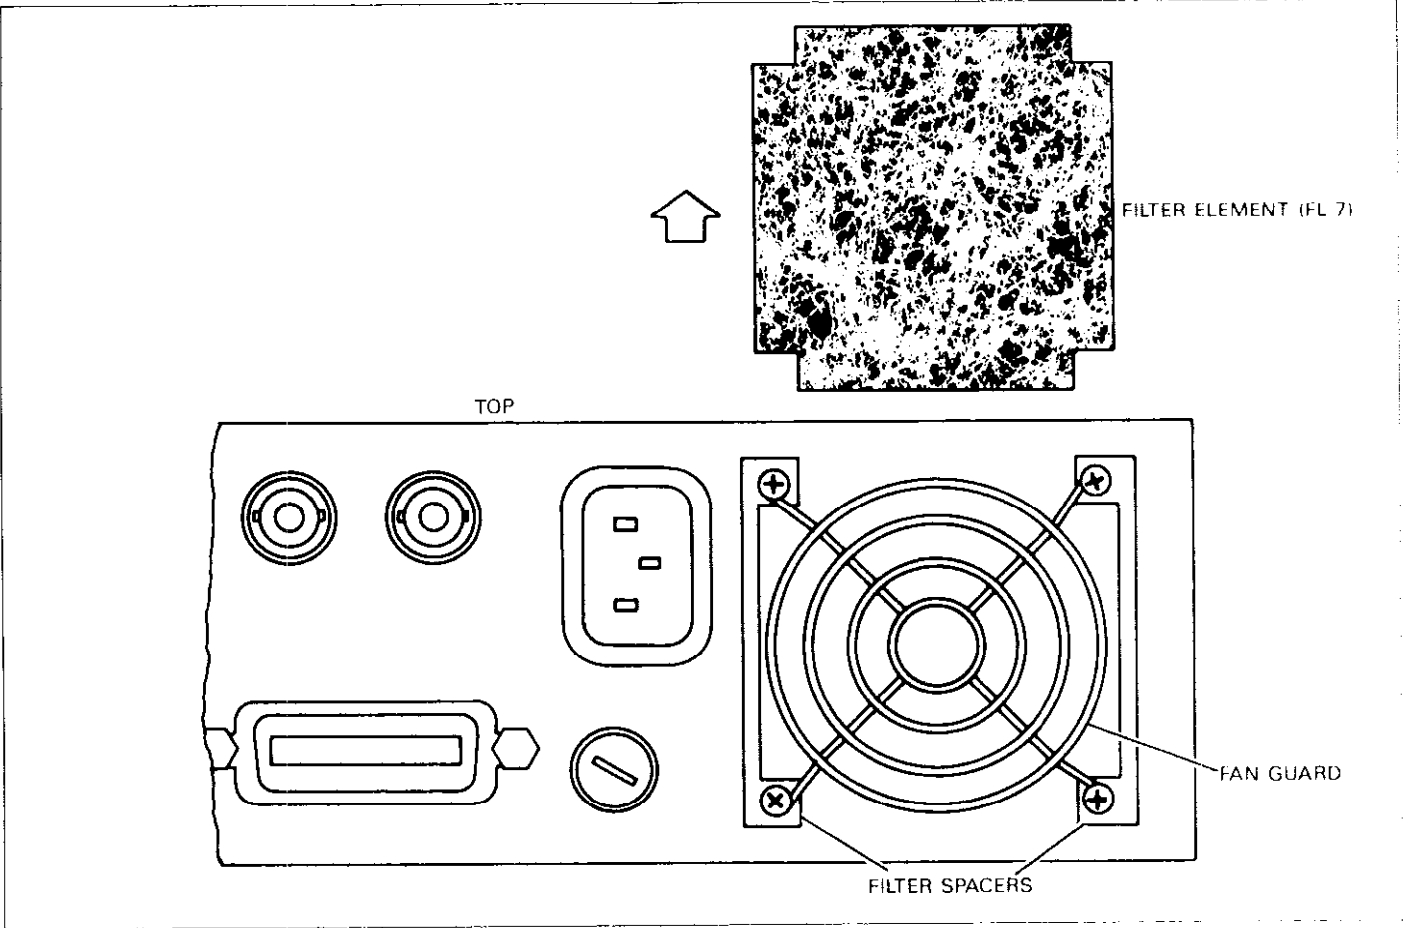

Figure 7-16. Fan Filter Removal
2. Using a pair of needle-nose pliers, carefully remove the filter, as shown in Figure 7-16.